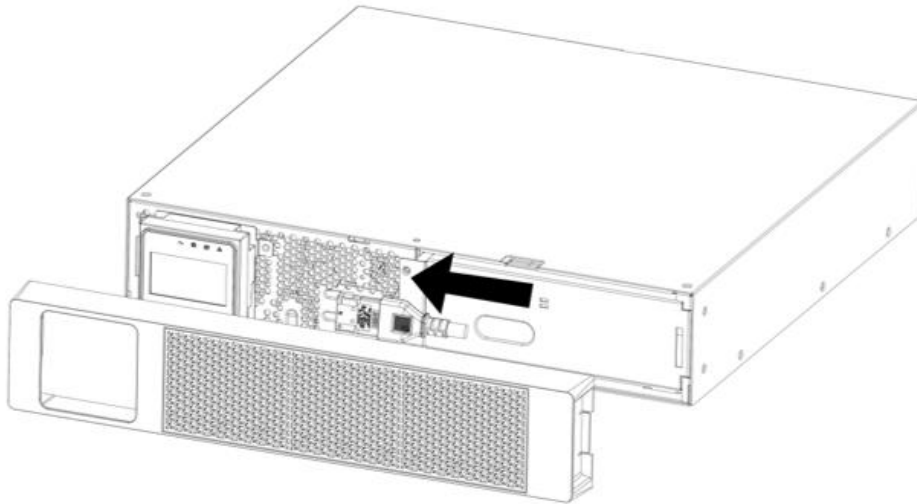

Figure 6: Connect the Internal Battery Cartridge Connector
10. Connect the internal battery cartridge connector (see Figure 6). Press the connector tightly together to ensure a proper connection.